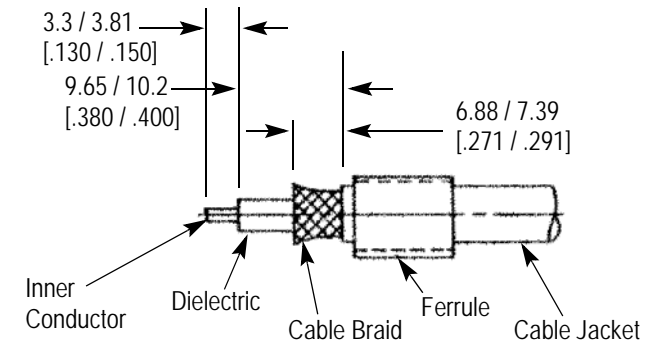

Figure 2
2.1. Coaxial Cable Preparation (Figure 2)
2. Strip the end portion of the cable jacket to expose the cable outer conductor (cable braid) to the dimensions in Figure 2.
6. Flare the outer conductor as shown in Figure 2.